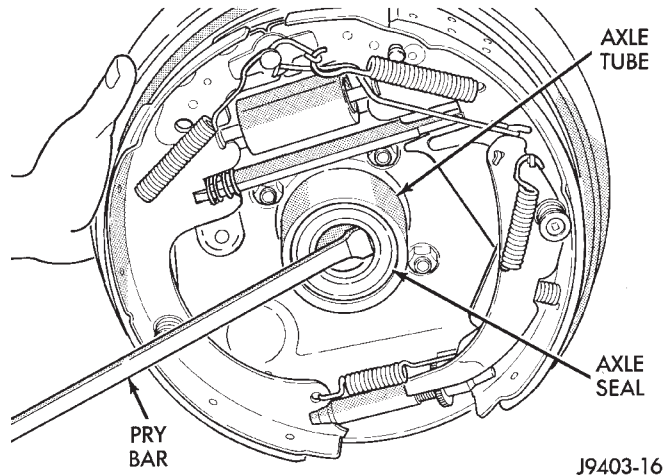

Fig. 10 Axle Seal Removal
(1) Remove axle shaft.
(2) Remove axle shaft seal from the end of the axle tube with a small pry bar (Fig. 10).